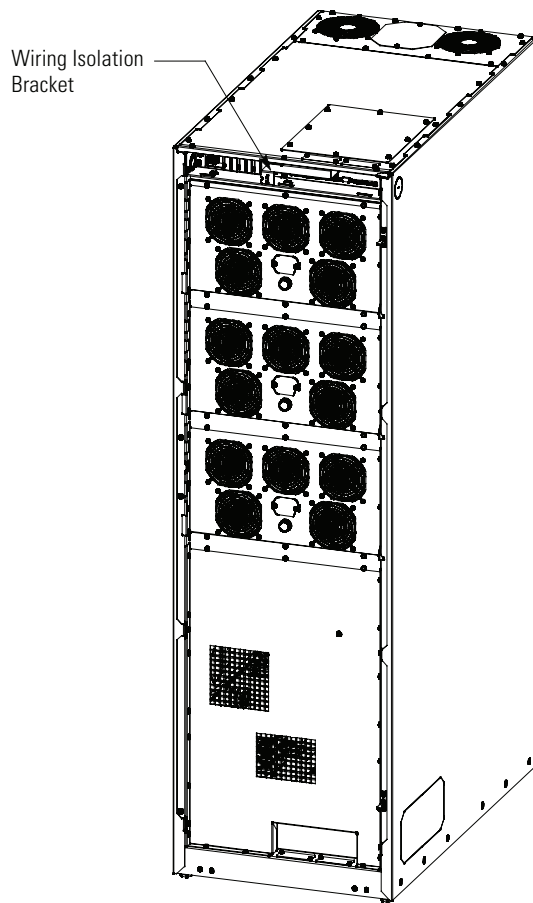
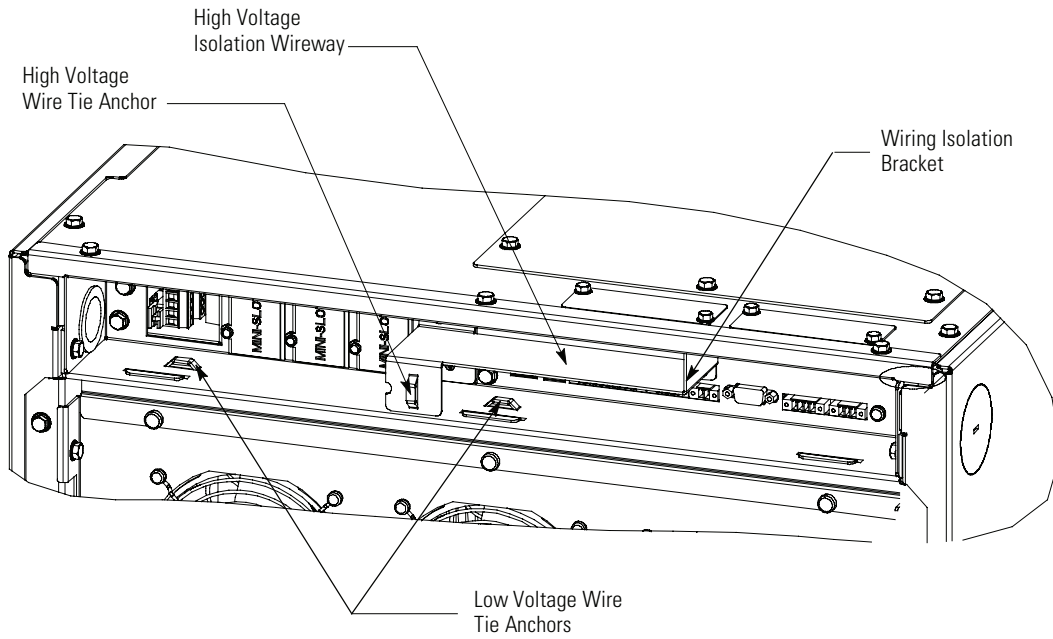

Figure 3. IRC Wiring Isolation Bracket Location
Figure 4. IRC Wiring Isolation Bracket Detail
5. Before installing the IRC in the minislot, route the IRC wiring through the top interface entry conduit landing plate, high voltage isolation wireway, and IRC cable bushing to the terminals. See Figure 3 and Figure 4 for IRC location and wiring routing path.
10. Before installing the IRC in the minislot, route the wiring through the IRC cable bushing to the terminals. See Figure 3 and Figure 4 for IRC location and wiring routing path.
16. Secure IRC wires to the high voltage wire tie anchor (see Figure 4).
17. Secure all low voltage wiring the low voltage wire tie anchors (see Figure 4).